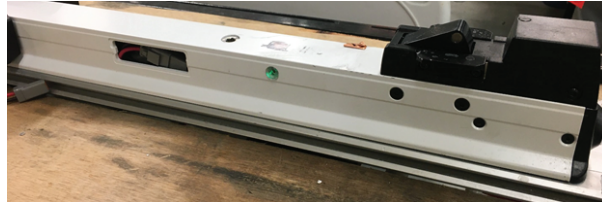

Figure 3 – Window plug location
- c. Locate the window plug (002900010000) and note the state of each LED indicator (Figure 3).